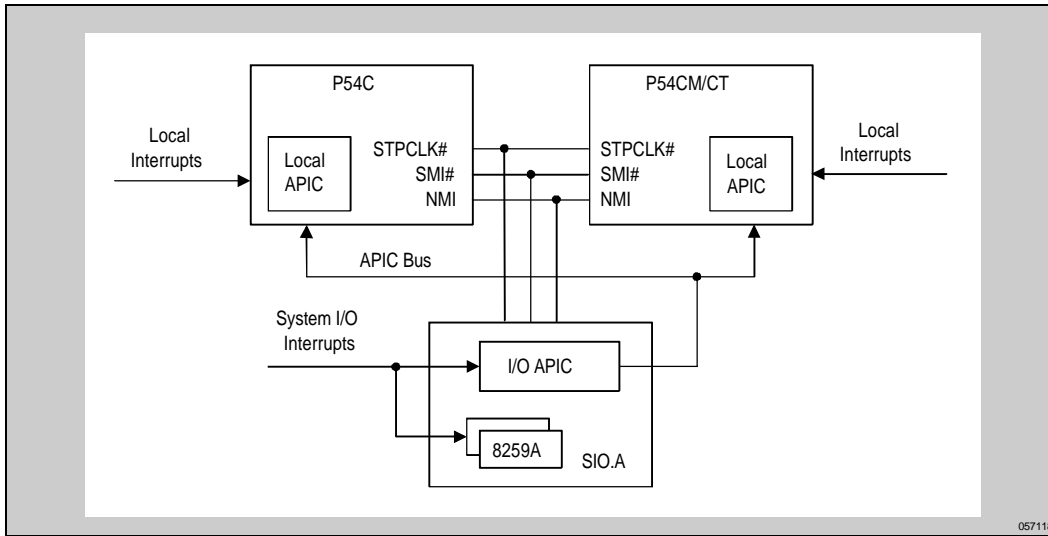

Figure 18. SIO.A Dual Processor System Configuration
Figure 18 depicts the power management support for dual-processor (DP) or P54CT upgrade processor configuration. The input signals of SMI#, STPCLK#, and NMI of both OEM and upgrade sockets are tied together.